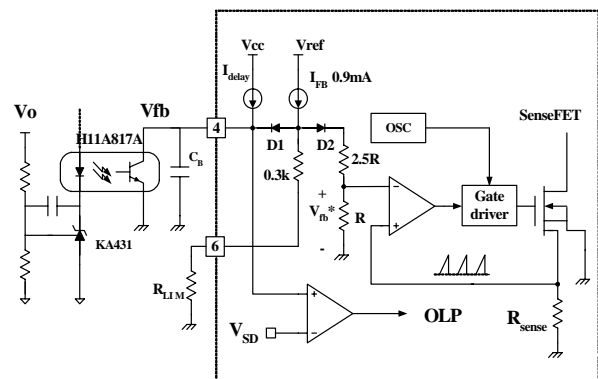

Figure 18. Pulse Width Modulation (PWM) Circuit
2. Feedback Control: The FSCM0765R employs current mode control, as shown in Figure 18. An opto-coupler (such as the H11A817A) and a shunt regulator (such as the KA431) are typically used to implement the feedback network. Comparing the feedback voltage with the voltage across the Rsense resistor makes it possible to control the switching duty cycle. When the reference pin voltage of the KA431 exceeds the internal reference voltage of 2.5V, the H11A817A LED current increases, thus pulling down the feedback voltage and reducing the duty cycle. This event typically happens when the input voltage is increased or the output load is decreased.
2.1 Pulse-by-pulse Current Limit: Because current mode control is employed, the peak current through the SenseFET is determined by the inverting input of the PWM comparator (V_{fb}^*) as shown in Figure 18. When the current through the opto transistor is zero and the current limit pin (#5) is left floating, the feedback current source (I_{FB}) of 0.9mA flows only through the internal resistor ($R+2.5R=2.8k$). In this case, the cathode voltage of diode D2 and the peak drain current have maximum values of 2.5V and 3A, respectively. The pulse-by-pulse current limit can be adjusted using a resistor to GND on the current limit pin (#5). The current limit level using an external resistor (R_{LIM}) is given by: